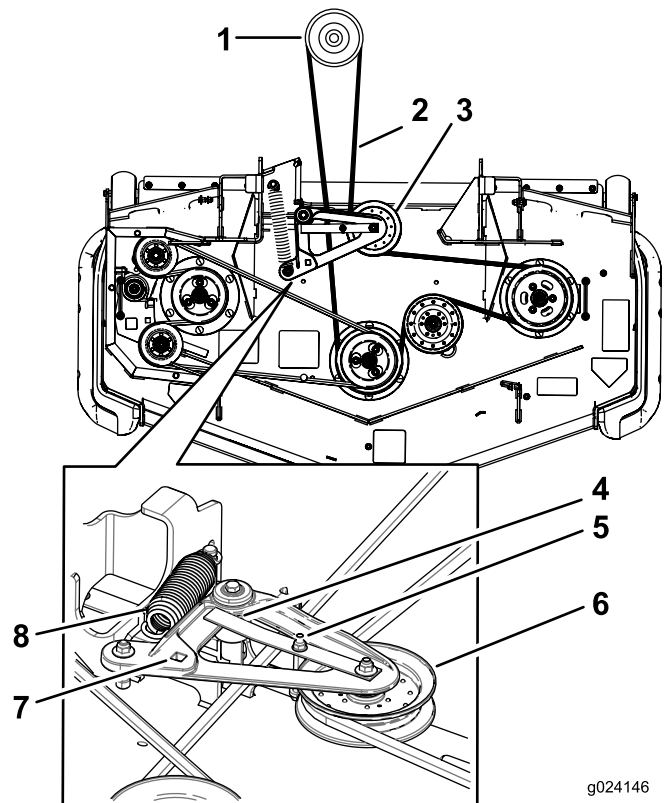

Figure 79
6. Use a ratchet in the square hole in the idler arm to remove tension on the idler spring (Figure 79).
8. Lift up on the belt-guide tab and remove the existing belt (Figure 79).
9. Install the new belt around the mower pulleys and the clutch pulley under the engine (Figure 79).
10. Rotate and ensure the belt-guide tab hits against the pivot hub (Figure 79).
11. Using the ratchet in the square hole, install the idler spring (Figure 79).